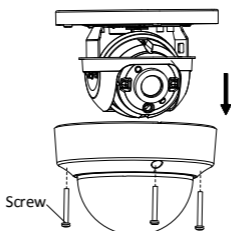

Figure 2-1 Disassemble the Camera
1. Disassemble the dome camera by loosening three screws of the bubble, and then take apart the bubble, as shown in Figure 2-1.